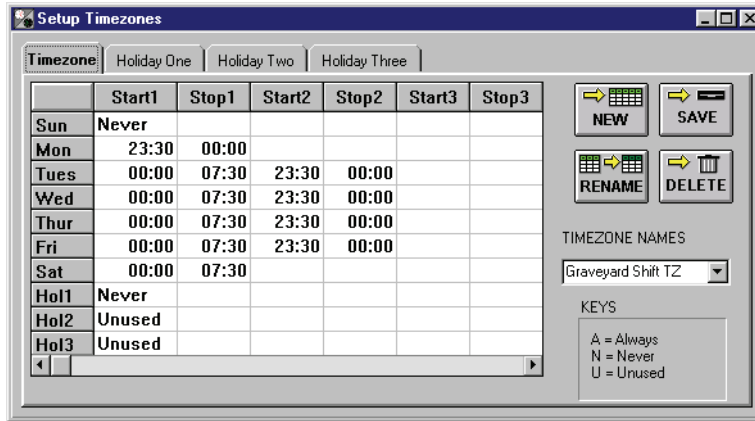

Figure 3-5: Graveyard Shift Time Zone Example
8. Click in the “Timezone Names” field and type **Graveyard Shift TZ**. The Setup Timezones window should appear identical to Figure 3-5 on page 9 of this section. Any discrepancies can be corrected by clicking on the cell or field and making the correction.